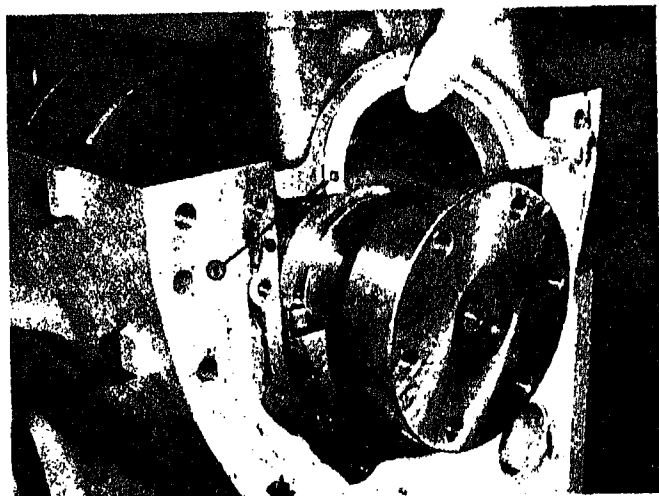

Fig. 14-1-3. Main bearing cap with thrust ring in place
10. Position lower thrust rings over dowels on No. 7 main bearing cap (1, Fig. 14-1-3) (No. 5 on four-cylinder engines); install main bearing caps with numbers (corresponding to upper main bearings) toward camshaft (fuel pump) side of block.